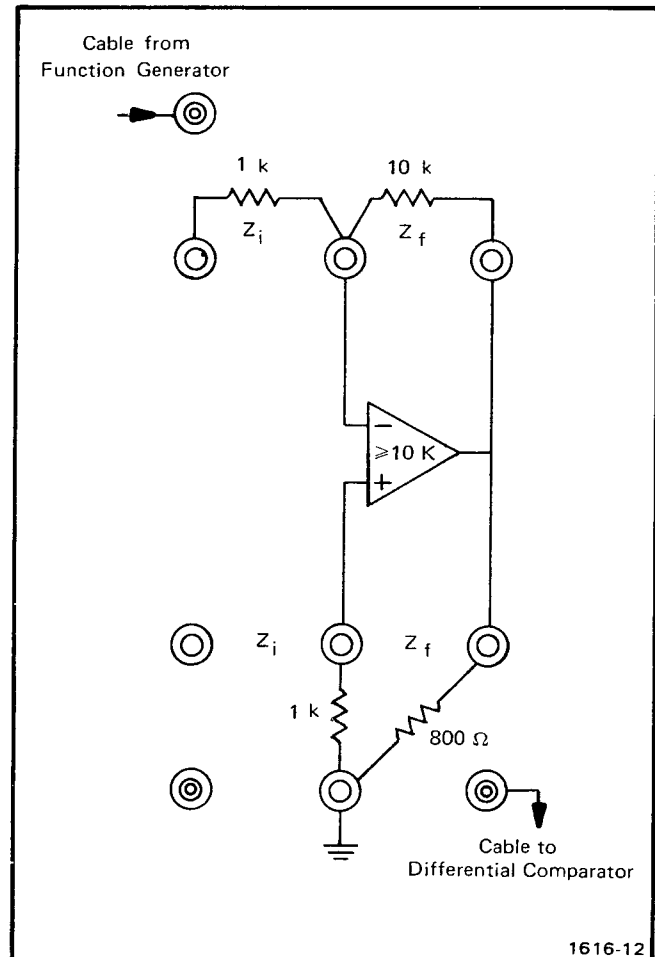

Fig. 2-3. Operational amplifier connected to check Common Mode Input Voltage Range.
b. Connect the 800Ω , 10 k , and the two 1 k resistors to the terminals of the AM 501 as illustrated in Fig. 2-3.